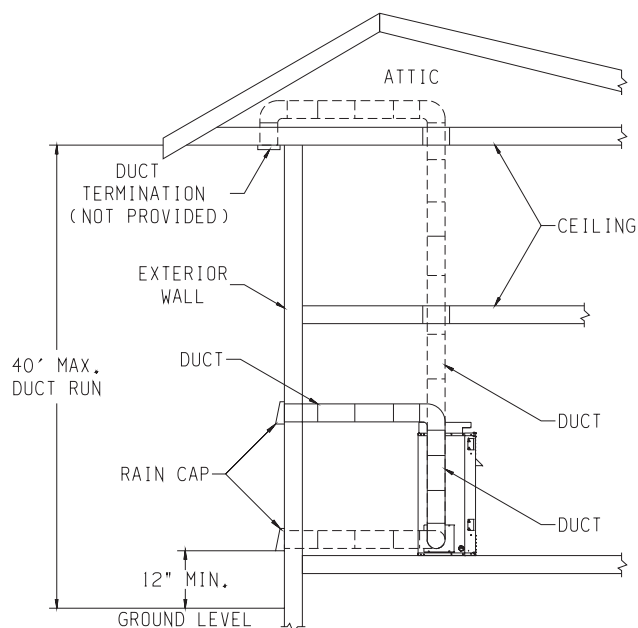

Figure 4 Example of installation
7. Attach cover plate to support legs with (4) 10 x 1/2" provided screws. The support legs are on the left side, to the rear, in the interior bottom of fireplace.
9. Refer to Figure 4 for options available for installation of 6" diameter duct. The duct run can be a maximum length of 40 feet. Insulated duct is recommended when ducting through a heated space. Note: 6" C vent or 6" flex vent can be used.